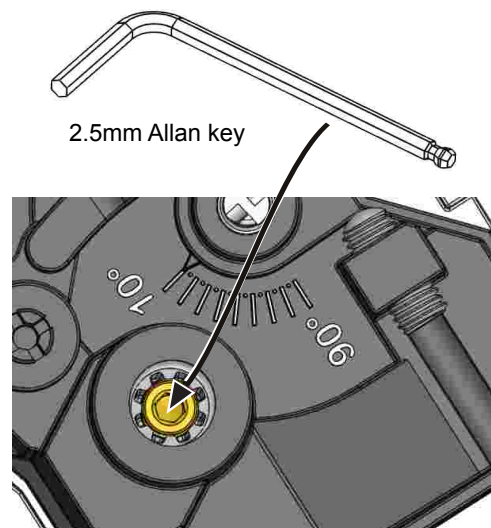

Figure 1.2
2. Place the allen key into the well and into the head of the AFR screw (Figures 1.2 and 1.3)